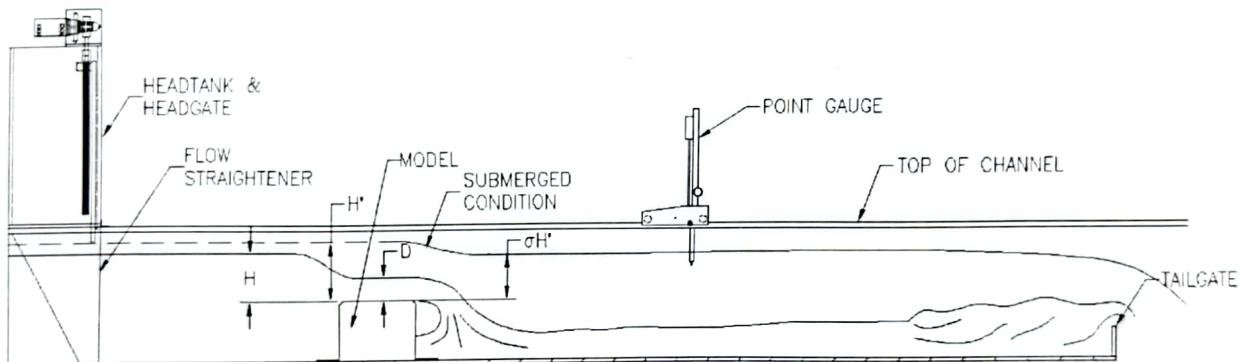

Figure 1 Installation
1. Initial settings (Fig. 1):
2. Mount the broad crest weir model midway in the channel using four (4) #10-24UNC-2A x 0.5" long Round Head Machine Screws (RHMS) at the flanges.